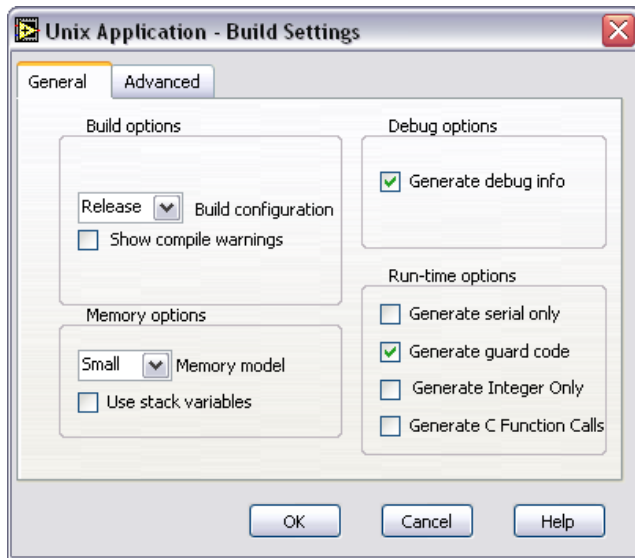

Figure 13. Configuring the Build Options
3. Under **Debug options**, place a checkmark in the **Generate debug info** checkbox as shown in Figure 13.